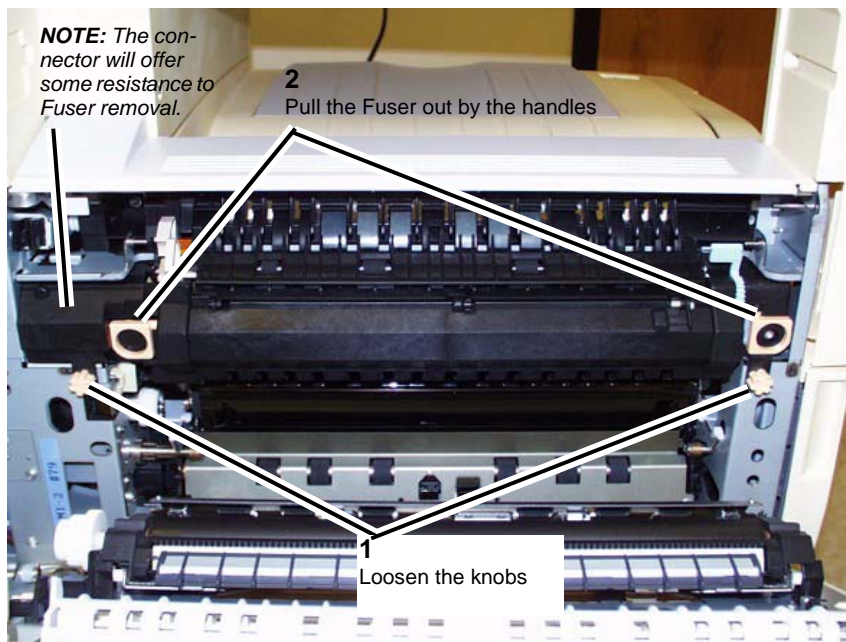

Figure 1 Removing the Fuser
3. Remove the Fuser Unit. (Figure 1)